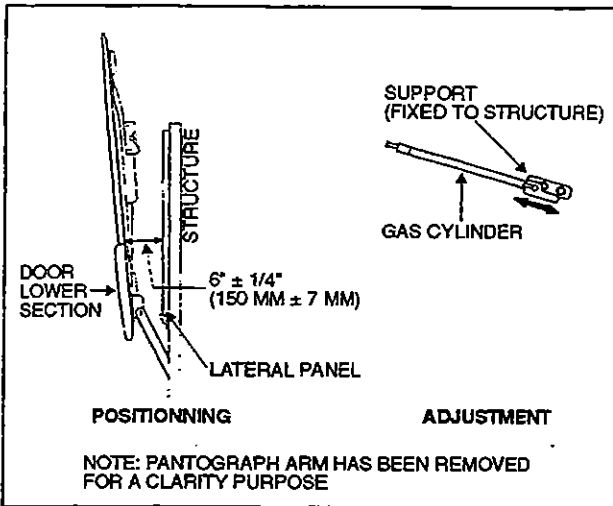

Figure 23
6. Fully open the door, loosen the two bolts retaining each gas cylinder support to structure, position door parallel with adjacent doors and complete tightening bolts. A measure of 6 " \pm $1/4$ " (150 mm \pm 7 mm) between door panel lip (at level of upper edge of lower section) and the lateral panel is given as a guide. Refer to figure 23.